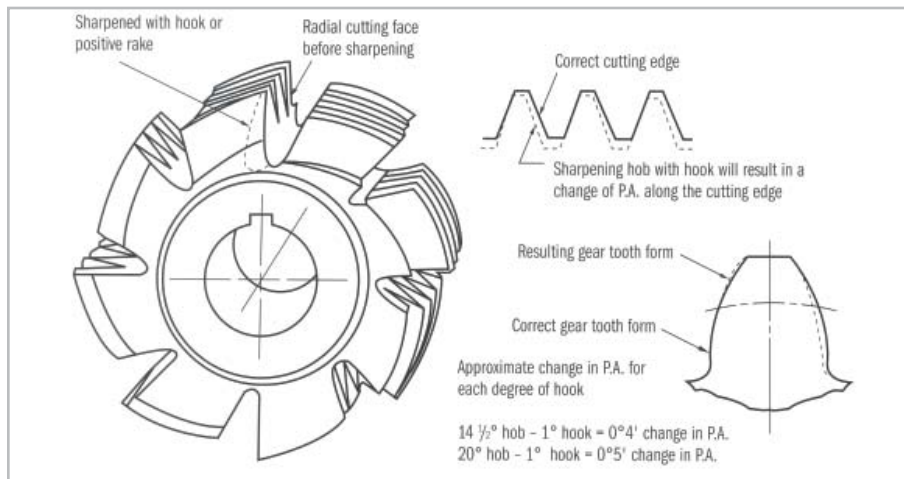

Figure 7. Effect on profile of a hob resharpener with positive rake when the cutting face should be sharpened radial.
- 2) Hob cutting faces are sharpened with positive rake (Figure 7)